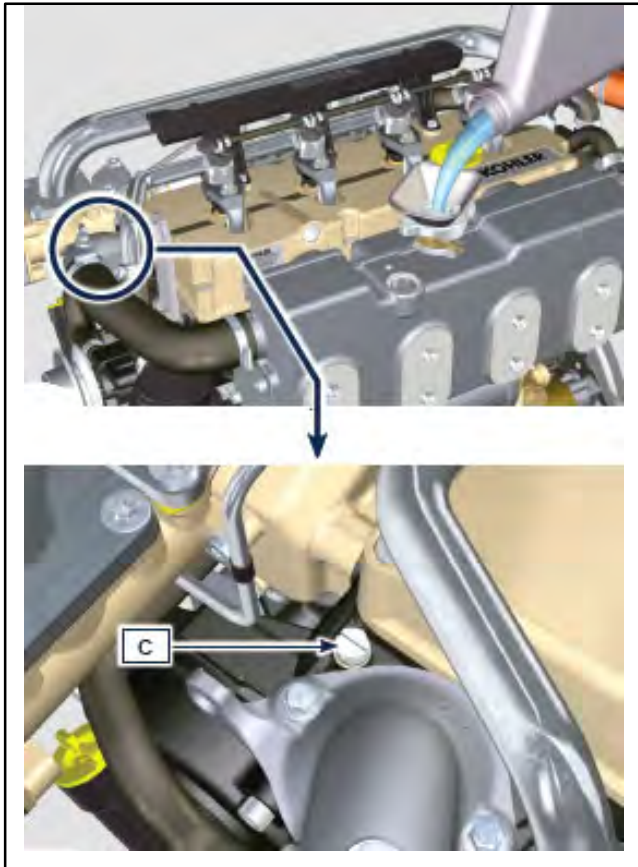

Figure 6-17 Bleed Point Location
3. Loosen the capscrew C (shown in Figure 6-17) to release any air and tighten the capscrew C. Torque capscrew to 8 Nm.